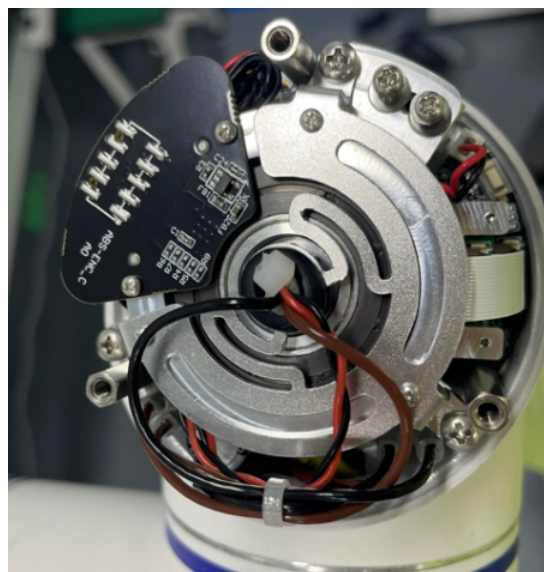

Figure 3-15 : Reconnect the wires
4. Reconnect the wires and tie them as shown in **Figure 3-15** :
4. Reconnect the wires and tie them as shown in **Figure 3-15** ;